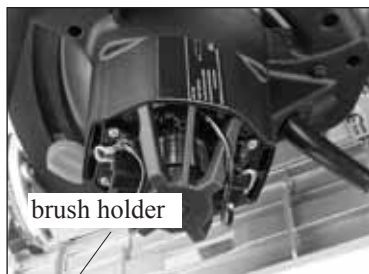

Fig.14
5. Replace the motor tail cover. See fig.14